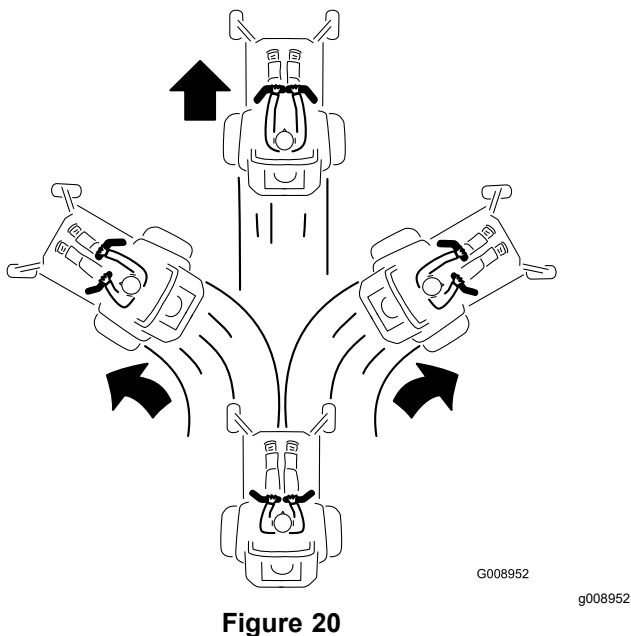

Figure 20
2. To go forward, slowly push the motion-control levers forward (Figure 20).